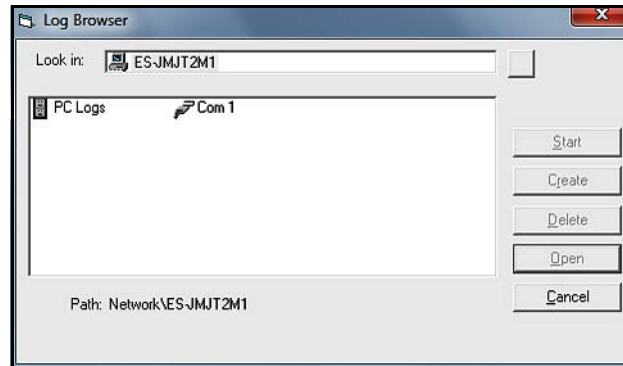

Figure 63: Communication Port Selection
- a. Double click on the *computer name* to move to the network level shown in Figure 63 below.